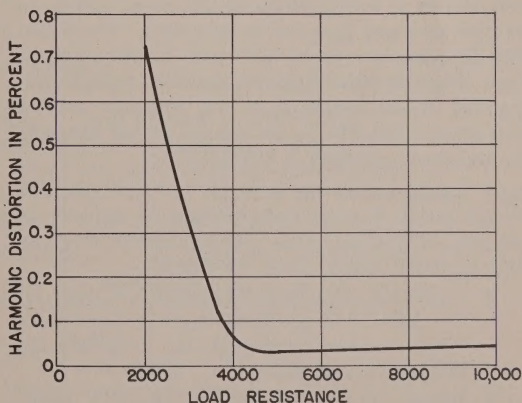

Figure 4.
2.4.1 5000-OHM OUTPUT. The total harmonic distortion will not exceed 0.1 percent between 40 and 7500 cycles. At other frequencies the distortion may increase to 0.15 percent. The over-all distortion is quite free from variation due to load impedance changes between 5000 ohms and open circuit. For load impedances below 5000 ohms, the distortion will increase slightly, as shown in Figure 4.